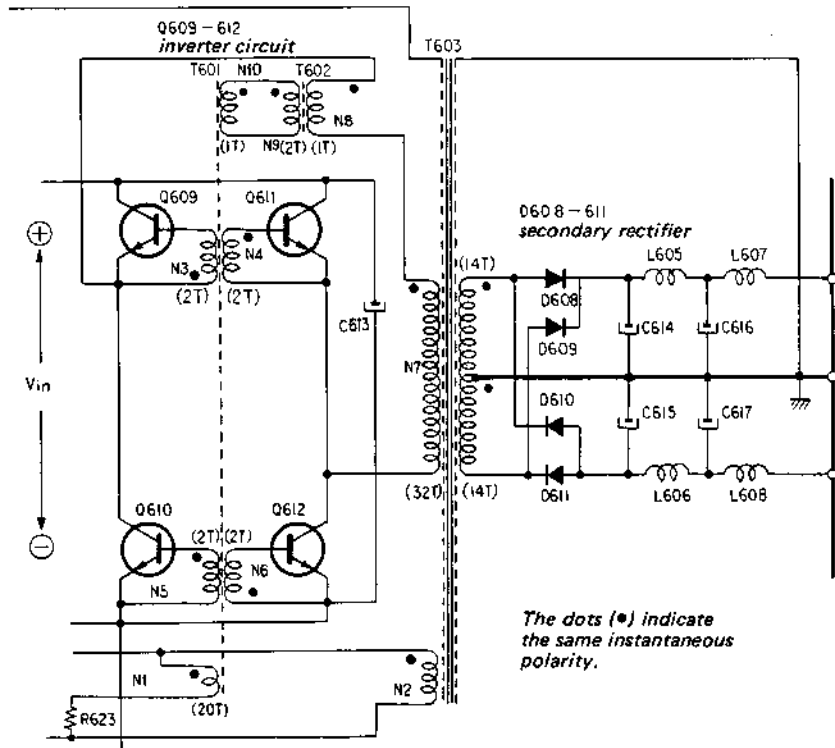
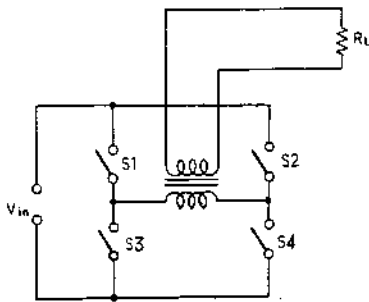

Fig. 13
Fig. 14
- 3) When these two transistors are on, the charge on C612 is applied as a pulse signal to N1 through Q607 and Q608 to start the inverter oscillating. (route ②).
- 4) Once the inverter starts to oscillate, the voltage generated in winding N2 of T603 is rectified by D604 and D605 (thereby obtaining a minus voltage), resulting in a decrease of the Q608 base voltage. Then transistors Q607 and Q608 turn off (route ③).
6. Inverter Circuit (See Fig. 13)
The circuit diagram in Fig. 13 is simplified to the circuit diagram in Fig. 14.
- The inverter circuit (Fig. 13) operates in the following manner.